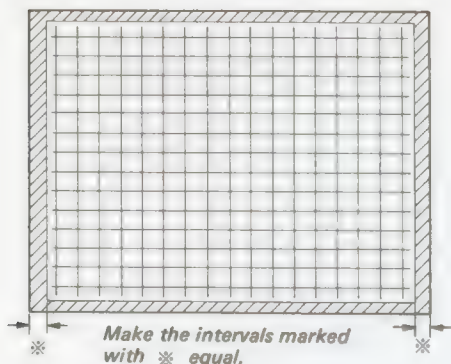

Fig. 5-126.
- (1) Turn RV10 on the E board fully counterclockwise.
- (2) Make the BVM-1201 receive the crosshatch signal, set up the UNDER SCAN mode, and set the BRIGHTNESS knob to MAX.
- (3) Adjust RV25 on the DA board so that the outside raster portions of the picture become equal to at the right and the left sides. (See Fig. 5-126.)
- (4) Set up the NORMAL SCAN and readjust the H. CENTER (with using RV4 on the E board).